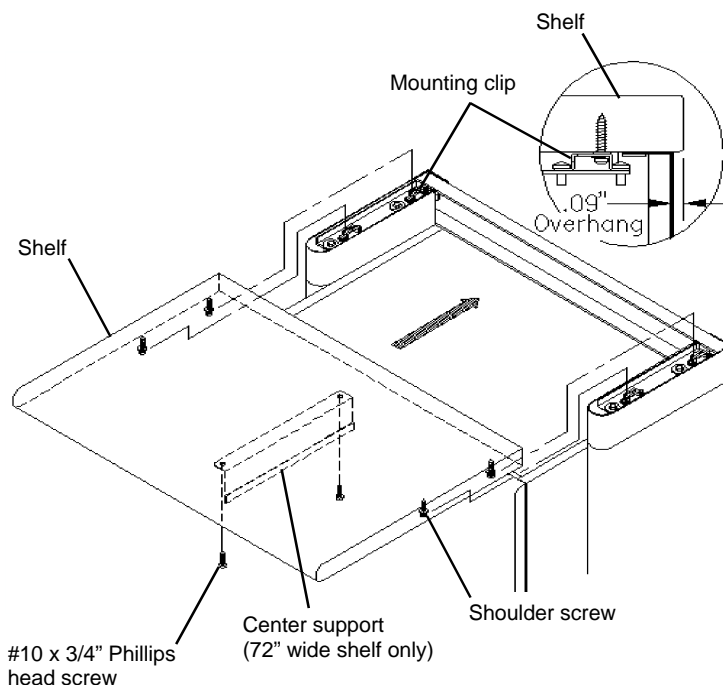

Figure 5
- If you are installing a 72"(1829mm) wide Shelf, install the **Center Support** to the underside of the Shelf at this time. Use the #10 x 3/4" screws provided. See **Figure 5**.
- With two people, align the shoulder screws in the bottom of the Shelf with the slots in the mounting clips. See **Figure 5**.